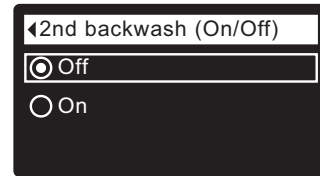

FIG. 132
8b. Second backwash (On/Off): If the desired option already has a dot next to it (See Figure 132), go to Step 9. Otherwise, press the DOWN (▼) or UP (▲) buttons to scroll to the other option, then press SELECT (O) to choose it. Setting this feature On adds a second backwash and rinse at the beginning of the recharge cycle. Default is Off. Set this feature On if your water supply contains a lot of sediment or iron.